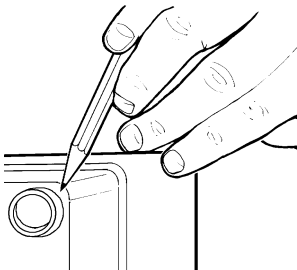

Figure 1
- 1.4. The Mira Advance must be fitted **ONTO** the finished wall surface i.e. on top of the tiles. **DO NOT** block the air ventilation gaps around the sides of the unit, either by tiling up to the sides of the unit or by using a sealant around the case (Small pillars moulded on to the back of the case allow air circulation). This Mira Advance is designed to be ventilated. Failure to do this may cause product failure (Refer to Figure 1).